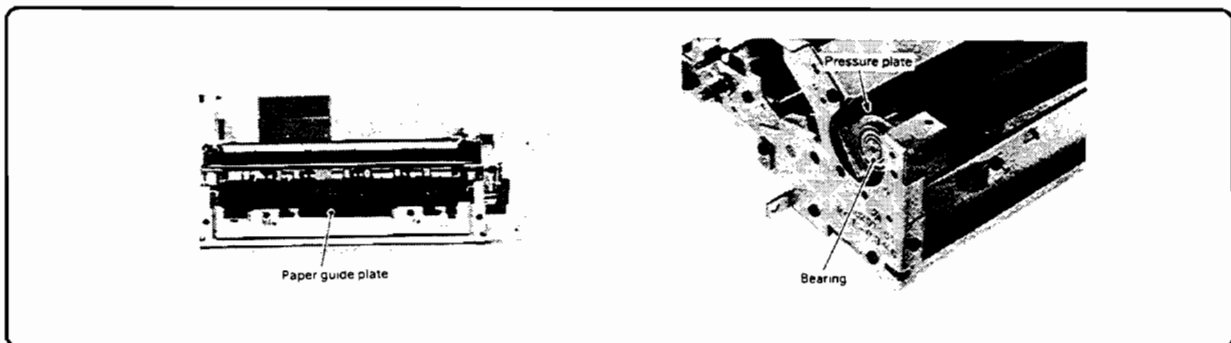

Figure 6-80. Paper Guide and Pressure Plate
11. Remove the paper guide plate by sliding the plate forward to release it from the clips (Figure 6-80).
12. Remove the cross member to facilitate removal of the lower pressure roller (Figure 6-80).
13. Remove the front pressure roller hanger from the pivot stud (do not release the spring) by raising the roller up to release the bearing and hanger (Figure 6-80).